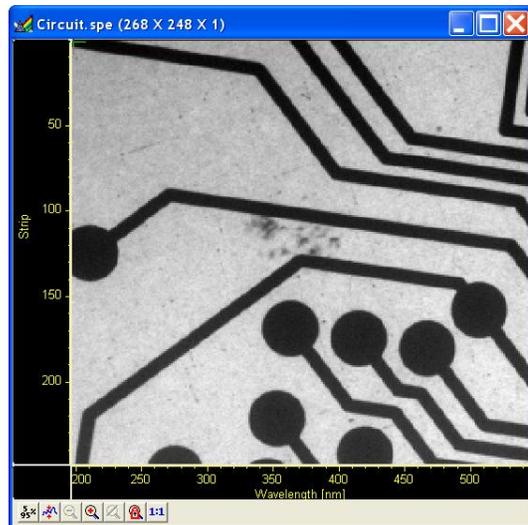

Figure 93. Circuit.spe Image
3. From the data directory select the image file called CIRCUIT.SPE. Click on the **OK** button. A window of the appropriate dimensions should appear immediately. The image display (Figure 93) may take a few seconds, depending on the speed of the computer.
1. Click on  (5%-95%) (located beneath the displayed image as shown in Figure 93). You will observe a moderate brightening of the image as it autoscales on the central 90% of the image histogram. The brightest (pixels with high dark charge) and the darkest pixels (pixels with low response) are ignored.